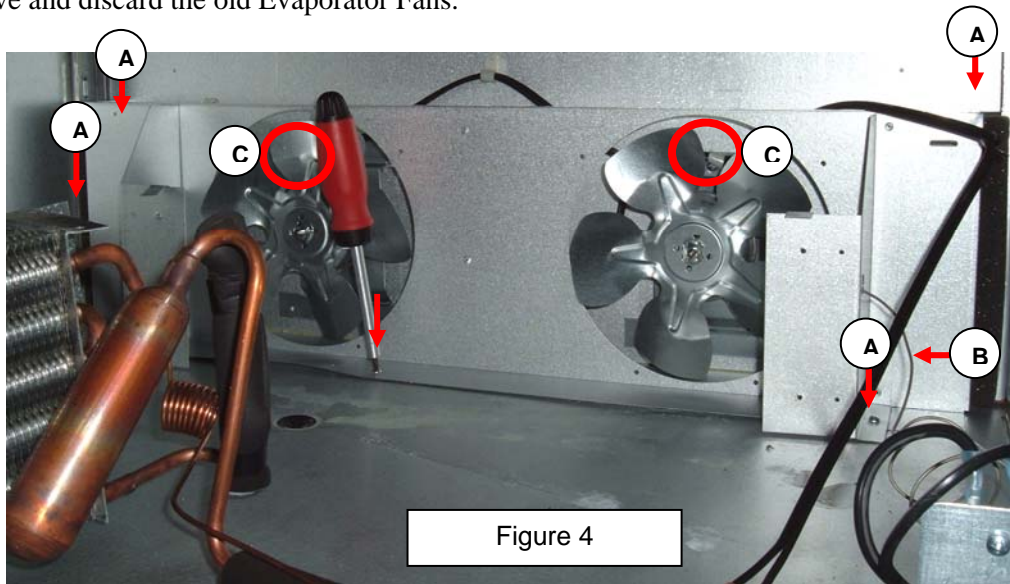

Figure 4
9. Carefully move the Evaporator Counter-clockwise as shown in Figure 4. **Be careful not to kink or bend the refrigeration tubing.**
10. Remove the Screws, identified with arrows marked “A” in Figure 4, from the Evaporator Fan Shroud.
11. Carefully remove the Cold Control Sensor, marked “B” in Figure 4, from the Evaporator Fan Shroud.
13. Remove the Screws, marked “C” in Figure 4, securing the Evaporator Fans.